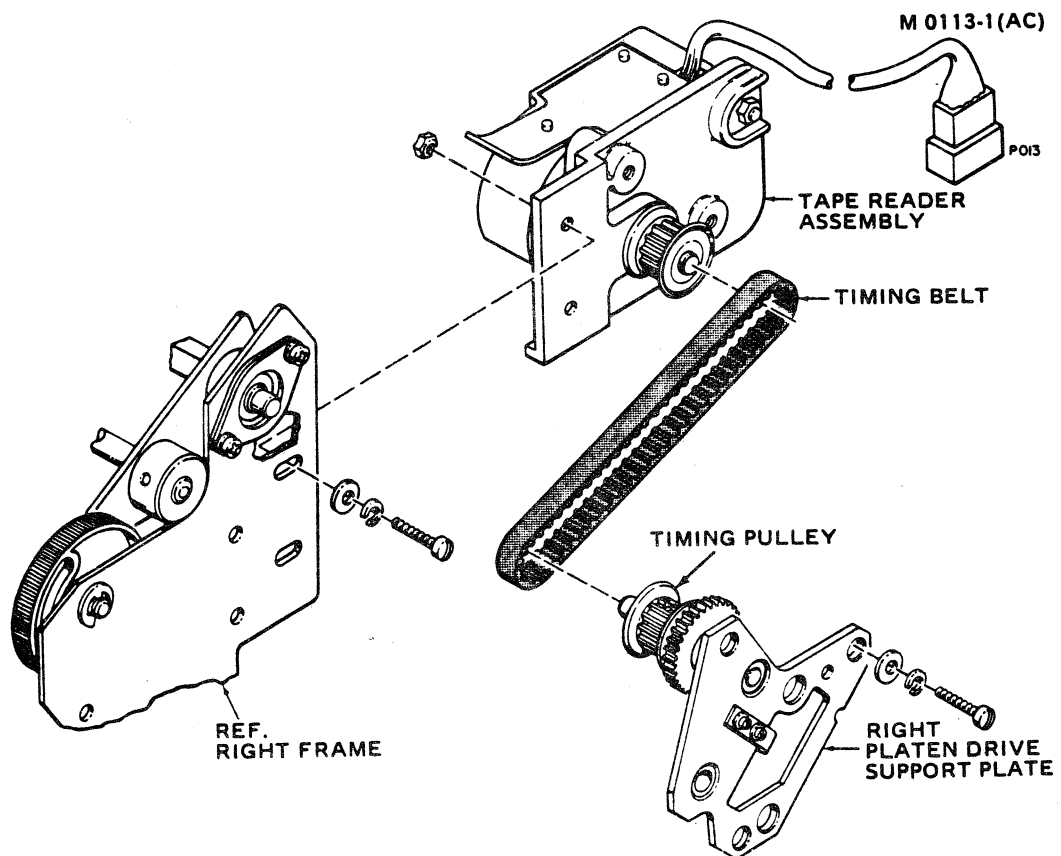

Figure 3-16. VFU TIMING BELT REMOVAL/REPLACEMENT
2. Timing Belt (Refer to Figure 3-16)